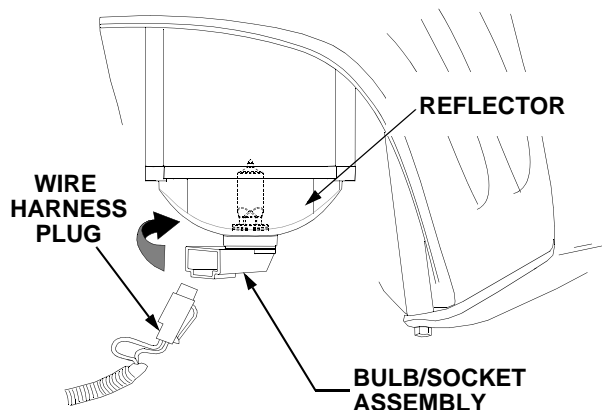

Figure 34
- Pull the wire harness plug from the bulb/socket assembly to unplug the wire harness. See Figure 34.